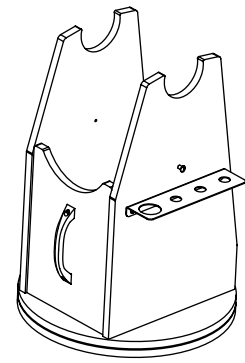

Fig 1. Rocker box and ground board
1) Detach Altitude bearing spring and remove optical tube from rocker box as shown in Fig 1. Remove existing Azimuth pivot bolt.